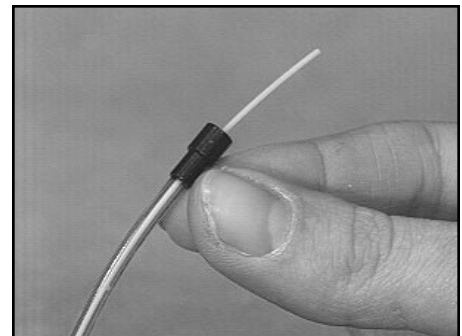

Fig. H3
3. PLACE THE CLEAR TUBE WITH THE CRIMP RING ONTO THE BUFFERED FIBER (Fig. H3)